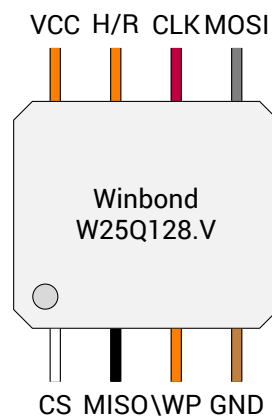

Figure 2: connecting the BusPirate v3.6a with the SPI NOR Flash
Figure 2 shows how to connect the BusPirate v3.6a with the SPI NOR flash chip. Connect the *Chip Select* (CS) pins using the white cable, the *Master In Slave Out* (MISO) pin with the *Data Out* (DO) pin using the black cable, the *Master Out Slave In* (MOSI) pin with the *Data In* (DI) pin using the grey cable and the *Clock* (CLK) pins using the purple cable. Further, the *Ground* (GND) pins should be connected using the brown cable and the 5V and the VCC pins should be connected with the orange cable. In order for the SPI NOR flash chip to function, the H/R pin of the SPI NOR flash chip should be pulled high, this can be done by connecting the 5V pin with the H/R pin. Finally, to be able to program the chip in case write-protection has been configured before, we have to make sure that the *Write-Protect* (WP) is pulled high to disable write-protection.